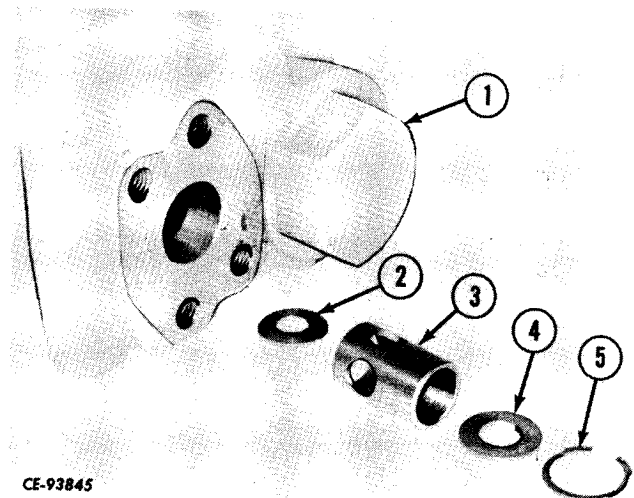

Figure 11-59
Remove the snap ring (5, Fig. 11-59), orifice (4), sleeve (3) and orifice (2) from the valve (1).